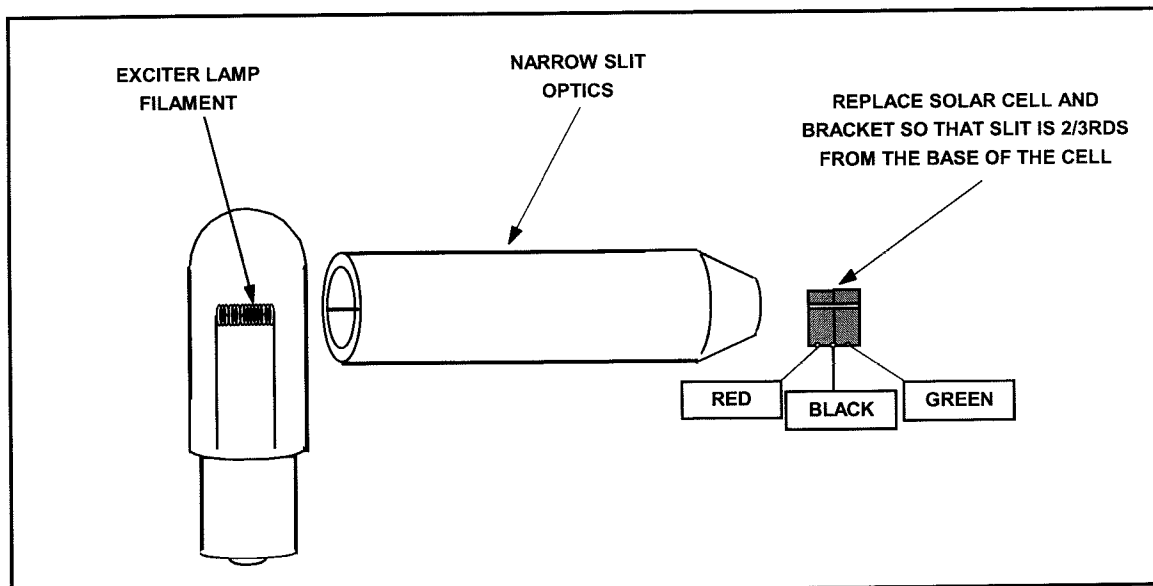

Figure 2: Preliminary mechanical alignment of exciter lamp and optics
1. Mount the stereo solar cell in the projector sound head and position the bracket so that the slit image from the exciter lamp hits the top quarter of the cell. The cell should be located with 1mm clearance from the film so that the slit image just fills the cell width, but does not spill over. (*See Figures 2 & 3*).